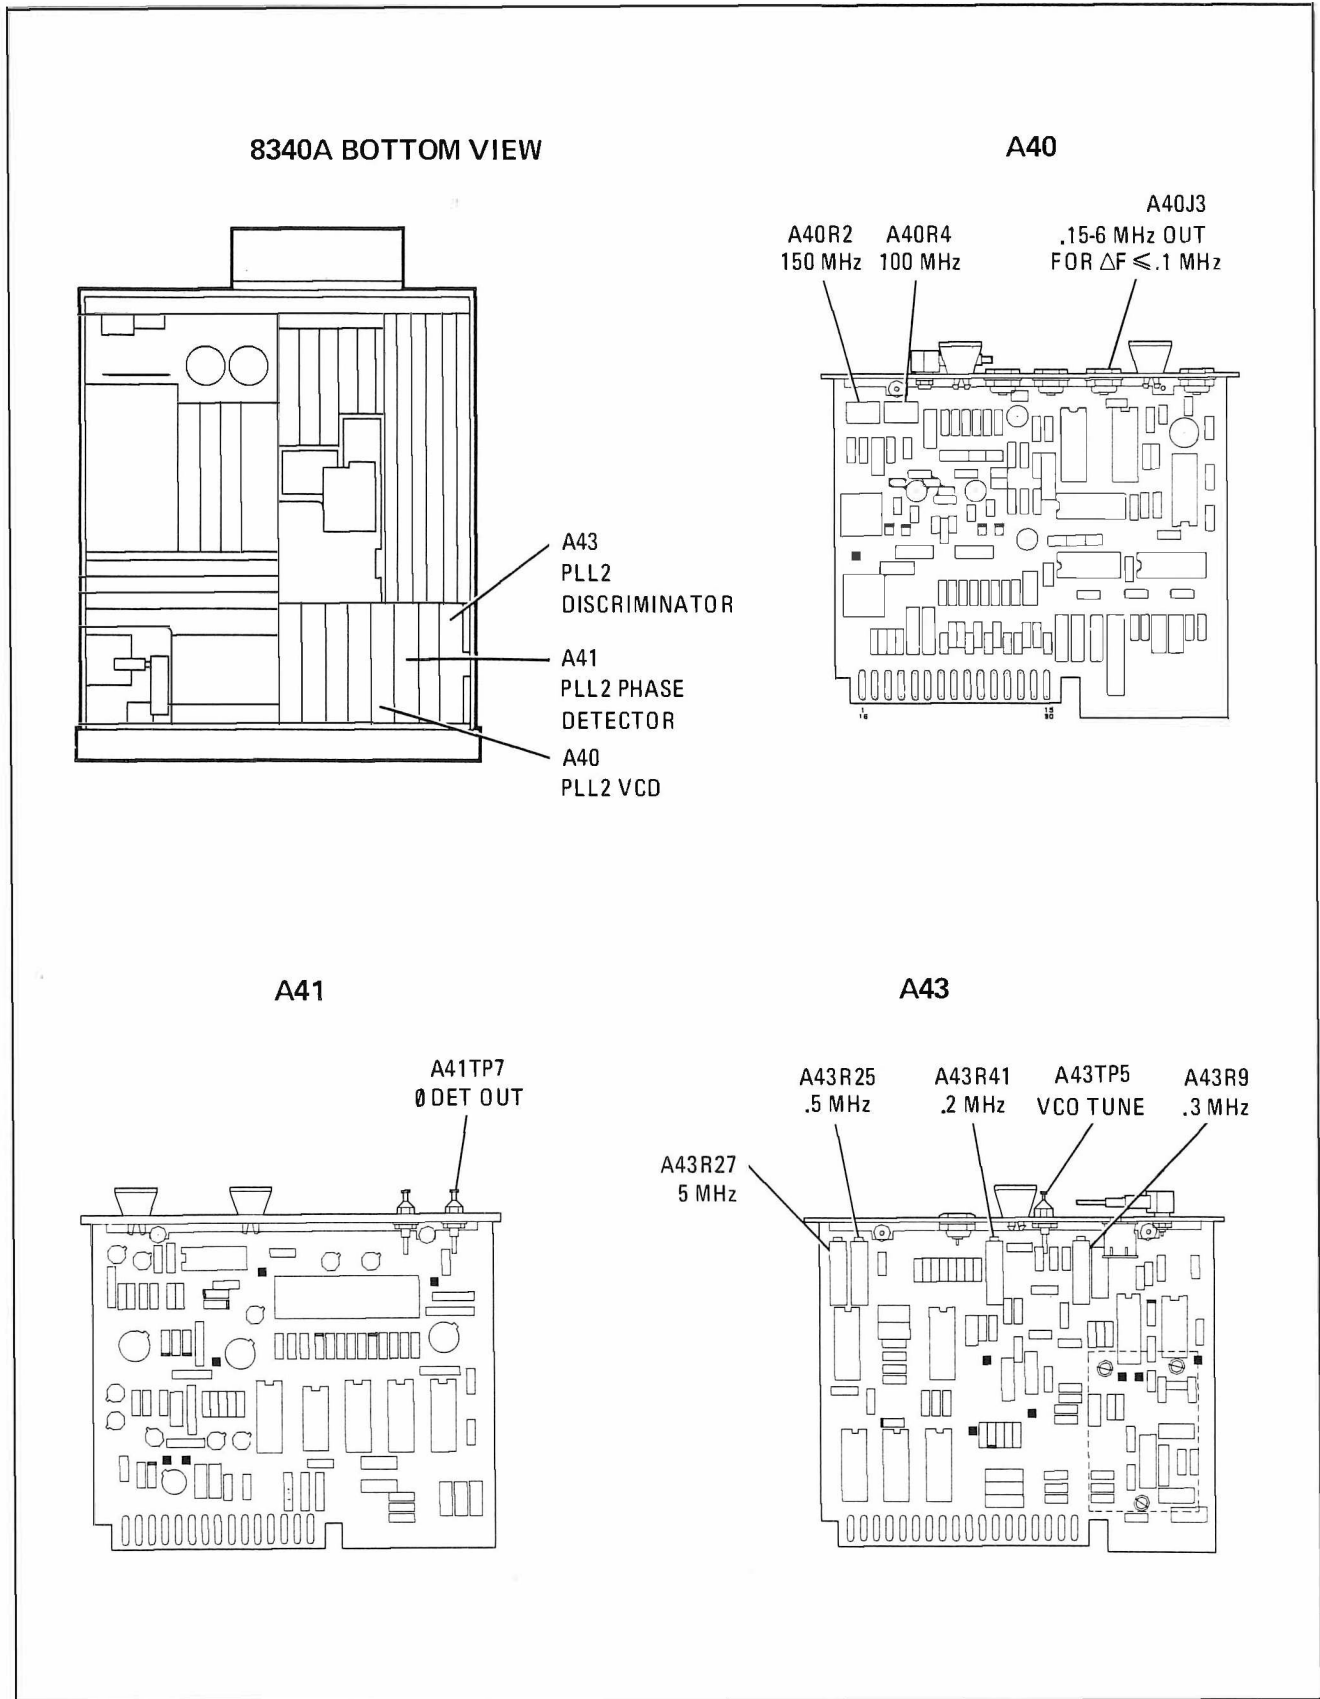

Figure 5-11. Location of PLL2 Adjustments
6. Adjust A40R2 150 MHz adjustment for a DVM indication of +3.0 Vdc ± 0.5 Vdc. Refer to Figure 5-11 for location of adjustments.